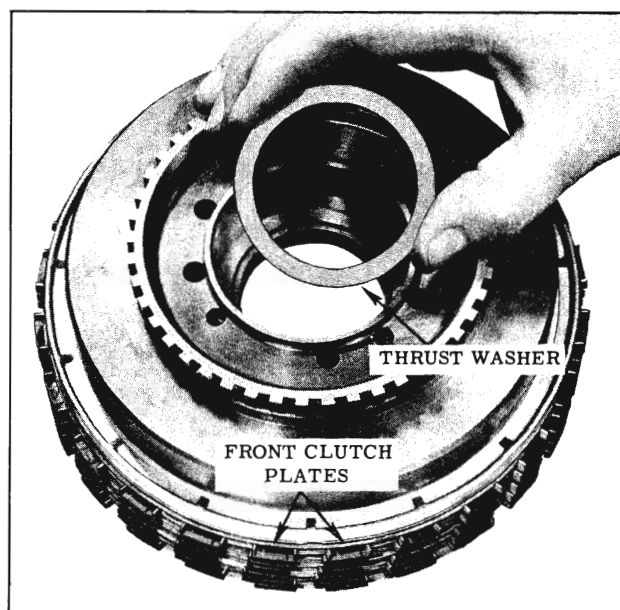

Fig. 3-45 Front Clutch
10. Remove the fiber thrust washer from the front clutch drum. (Fig. 3-45)